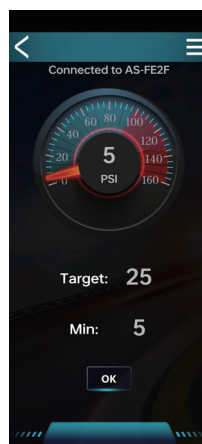

Fig. III.8.1
- 1) Click the INFLATION icon in the App to enter the automatic inflation mode. Refer to Fig. III.8.1.